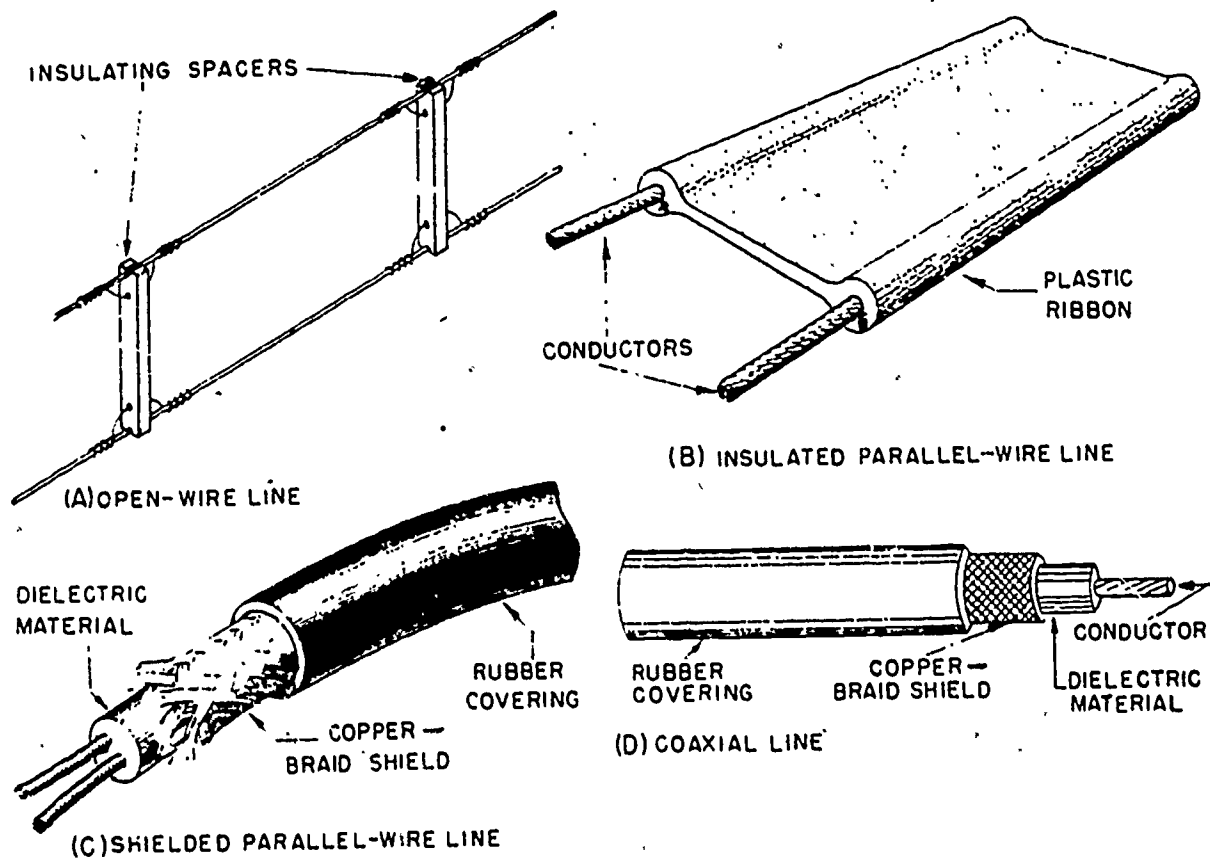

Figure 2-5. Types of RF transmission lines.
- (1) The open-wire line shown in A of figure 2-5 is used mainly with transmitters. The spacing between lines may be varied by changing the insulators between wires. Such lines require much time and work to install. This type of line is not often used with receivers because of the possibility of noise pickup along the line.
- (2) The insulated parallel-wire line (B of fig. 2-5) is widely used for television reception. The plastic ribbon maintains the spacing between the conductors. This type of transmission line is flexible and easy to handle and install, but is subject to noise pickup from external sources.
- (3) The shielded parallel-wire line (C of fig. 2-5) is often used in radio reception because of reduced noise pickup from external sources along the line.
- (4) The type of transmission line shown in D of figure 2-5 is used for both transmission and reception. Receiving-type coaxial cable is usually small in diameter and very flexible. The copper-braid shield greatly reduces noise pickup from external sources. The transmitting-type coaxial cable is larger in diameter because a larger center wire is used to keep resistance losses to a minimum, and a thicker dielectric material is used to insulate the center conductor from the copper-braid shield.
c. Transmission Lines. RF energy developed by a radio transmitter must be conveyed to a transmitting antenna to be radiated. RF energy intercepted by a receiving antenna must be conveyed to a receiver so that the receiver can develop a usable audio signal. The link between the antenna and the transmitter or receiver is called a transmission line. There are four types of commonly used RF transmission lines. These are shown in figure 2-5.